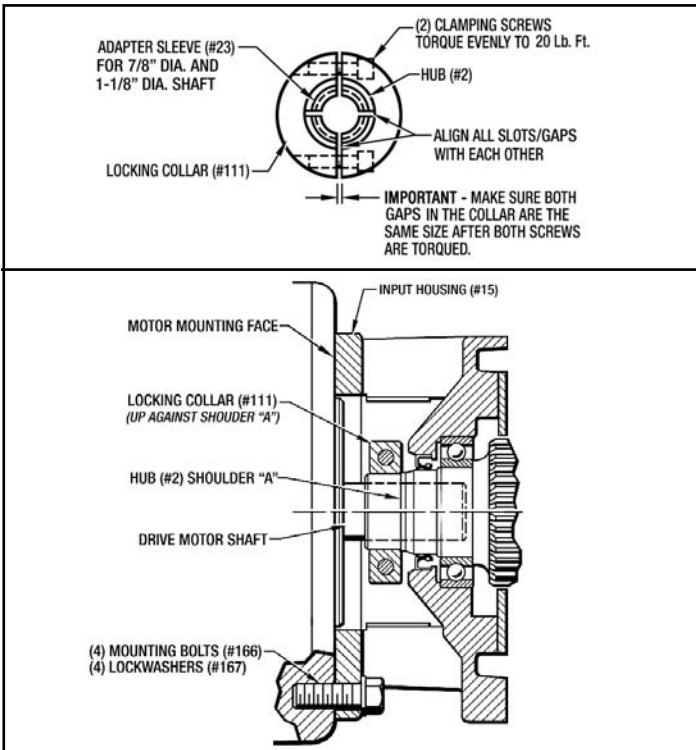

Figure 4 - Installing The MSB6 MagnaShear Motor Brake
● **INSTALLING THE MagnaShear BRAKE** (See Figure 4)
1. If you have an Adapter Sleeve (#23), make sure all the clamping slots/gaps are aligned with each other as shown in Figure 4.
If you don't have the Adapter Sleeve (#23), two of the slots in the Hub (#2) must be aligned with the (2) gaps in the Clamping Collar (#111) as shown in Figure 4.
2. Push the Locking Collar (#111) back against the small shoulder "A" on the Hub (#2) as shown in Figure 4, and slide the Brake Unit onto the motor shaft as far as it will go. Align the (4) mounting holes with the motor and attach with (4) Mounting Bolts and (4) Mounting Lockwashers. Finger tighten the (4) bolts. **Make sure the brake is snug against the motor face.**